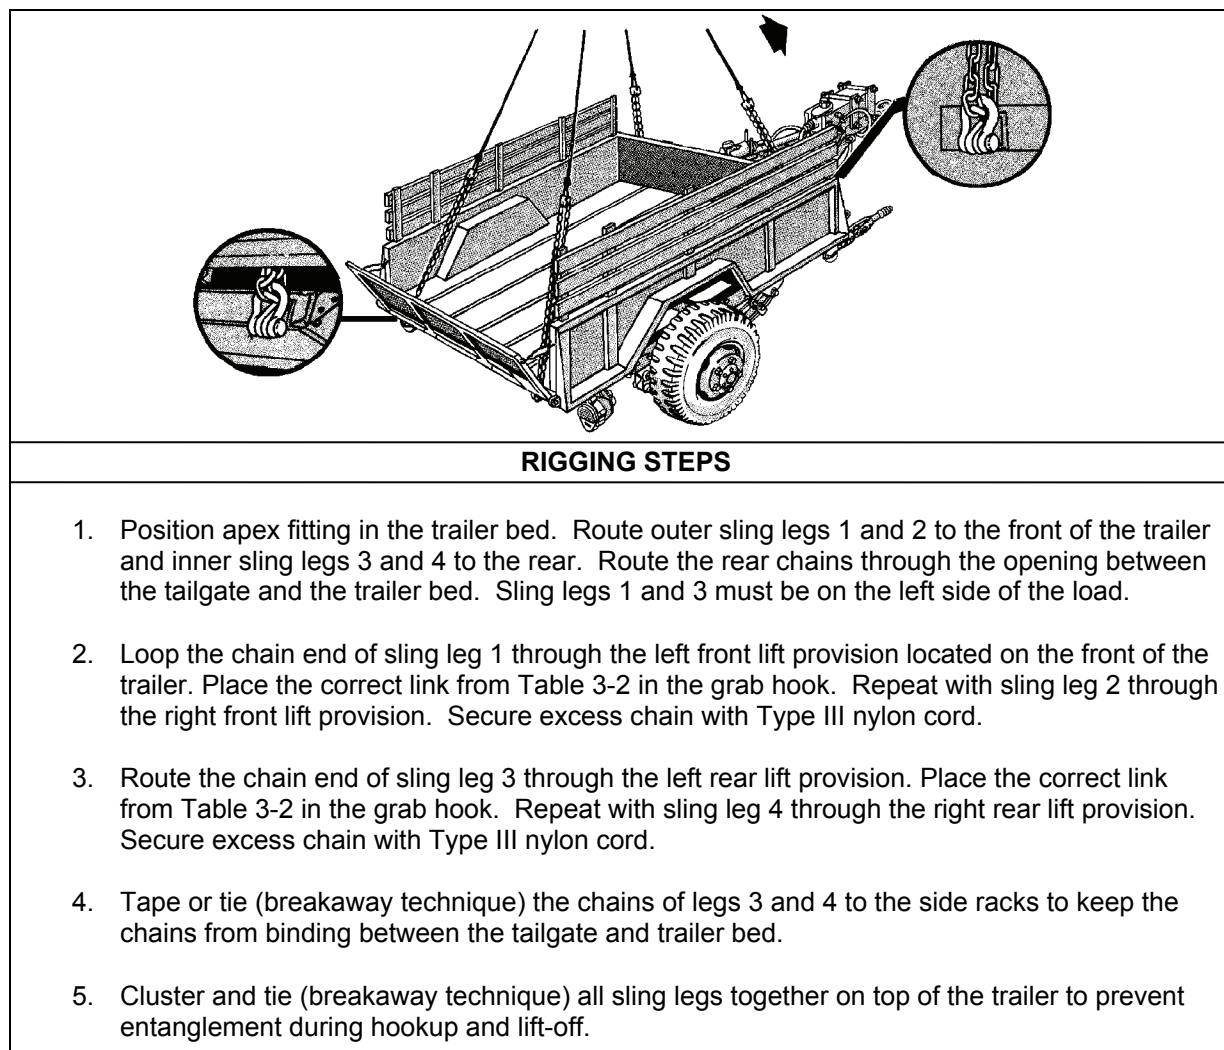

Figure 3-2. M101A2/A3 3/4-Ton Trailer
- **Rigging.** Rig the load according to the steps in Figure 3-2.